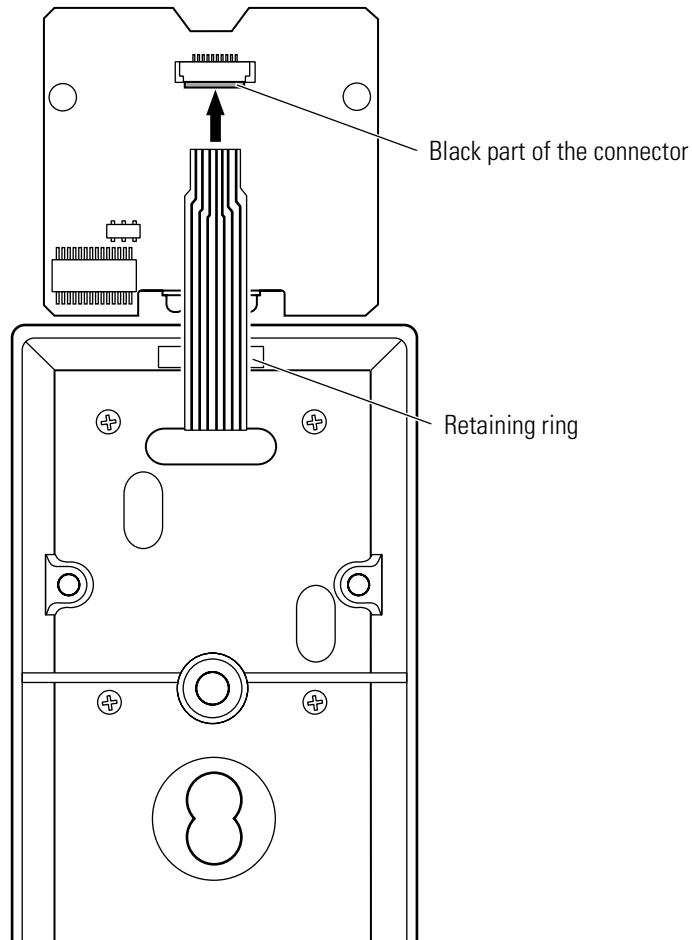

Figure 9.12 Connecting the flex cable to the smart card control electronics board
2. Insert the flex cable into the connector on the back of the electronics board. See Figure 9.12.